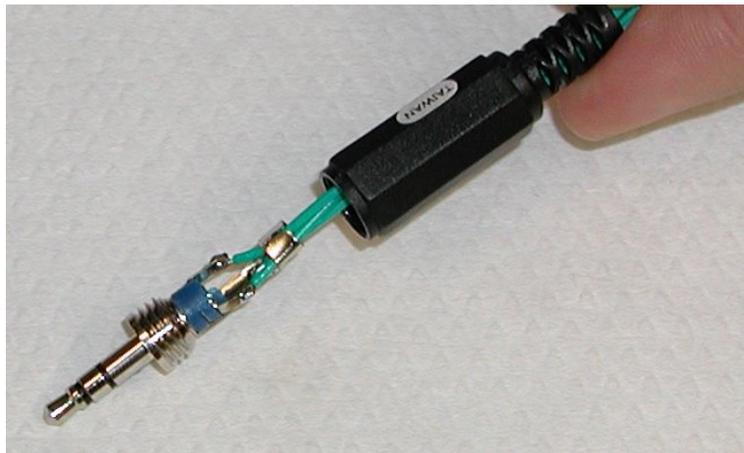

Figure 6: A soldered male headphone jack.
Male Headphone Jack You have one male headphone jack in your lab kit. In order to plug this into your breadboard, you need to solder (pronounced saw-der) some wires onto it. Soldering is a process where you touch two wires together and then use a hot iron to melt metal (solder) over the junction. See Figure 6 for an example of a soldered jack. This was built using this simple procedure:
6. Use a soldering iron to melt a very small bit of each hook. See Figure 6 for an example of the result.